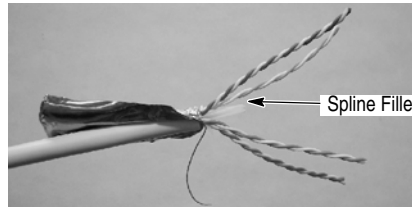

Figure 18
5. Cut the center spline filler 12.7 mm [.500 in.] minimum from the end of the cable jacket. See Figure 18.